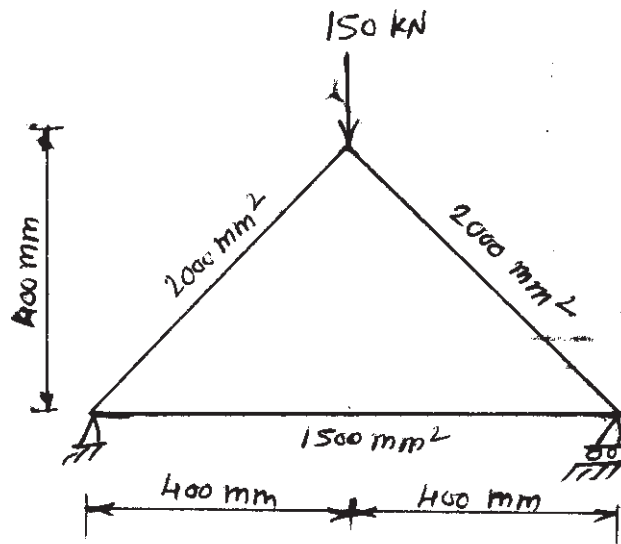

Fig. 4.
- Q7)** For the three bar truss shown in fig. 4, determine the nodal displacements and the stress in each member. Take $E = 200 \text{ GPa}$. [18]